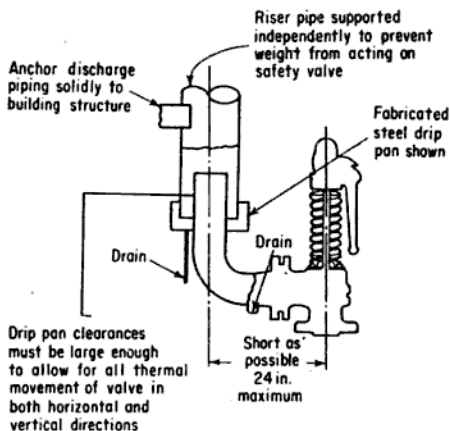

Fig. 13-8. Correct safety valve discharge piping hookup.
6. Outlet piping of svs not sufficiently braced against the reaction forces when an sv discharges (Fig. 13-8). This often leads to flanged connections breaking.